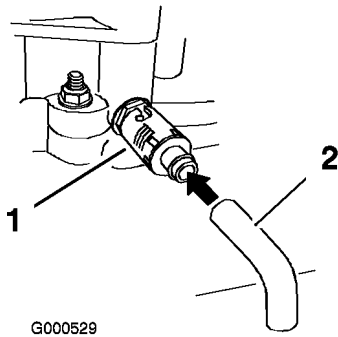

Figure 26
6. Place a pan below the drain hose. Rotate oil drain valve to allow oil to drain (Figure 26).
8. Remove the drain hose (Figure 26).